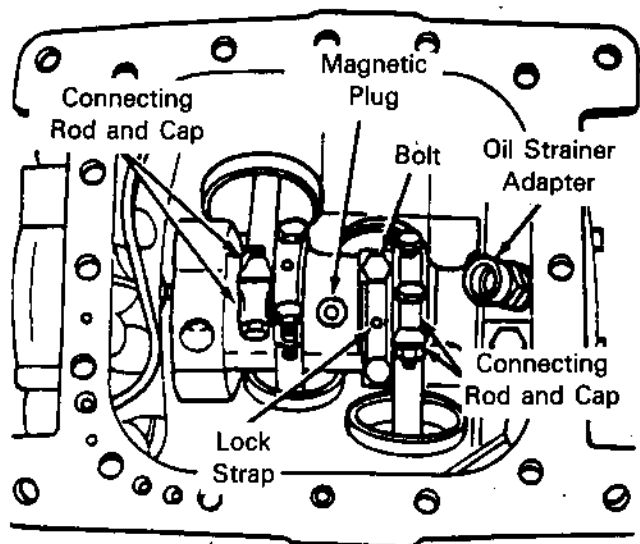

Figure 27 — Connecting Rod Cap Bolts Installed
4. Open tabs on connecting rod bolt lock strap (32) shown in Figures 27 and 28, then remove the cap bolts. Remove cap from bottom of the connecting rod.
1. Rings (28) are removed from the piston using a piece of thin shim stock inserted between the rings and the piston. Carefully work the rings out of the groove and slide them over the shim stock and off the piston. Rings (28) are not reused at overhaul.
2. Using Tru-Arc pliers, remove snap rings (29) from ends of the piston pin. Drive the pin from the piston pin using a brass driving rod or wood dowel. Be careful not to nick or damage the piston, rings, or distort the wrist pin hole. Figure 27 shows the piston and rod components.